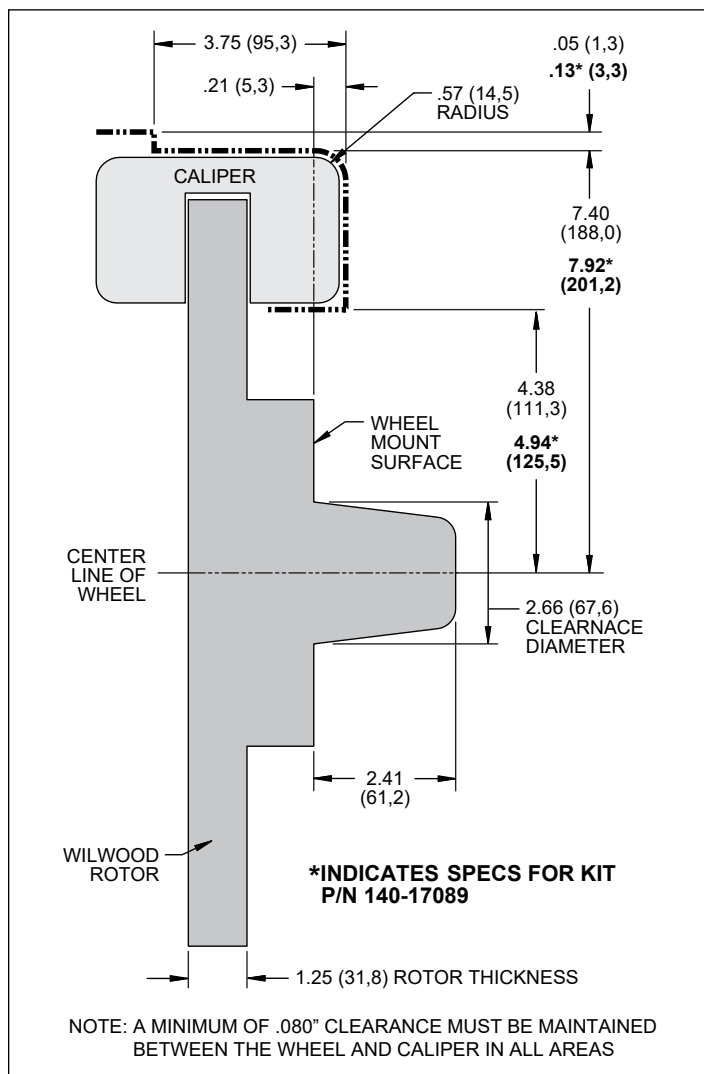

Figure 3. Wheel Clearance Diagram
- Review the wheel clearance diagram (Figure 3, page 5) to verify that there is adequate clearance with the wheels you will be using with the installation.
- Verify wheel clearance using figure 3.